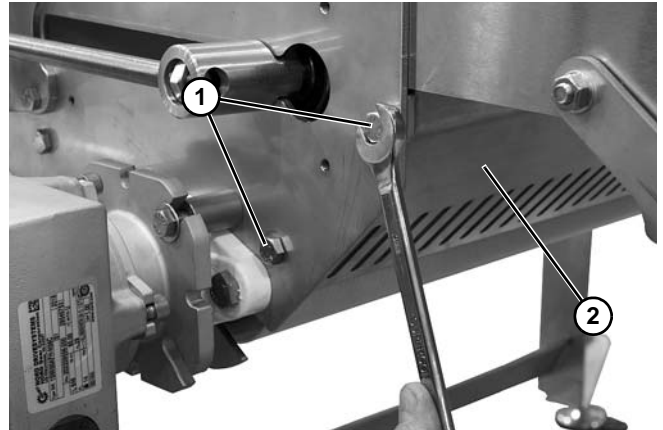

Figure 50
7. Remove two bolts (**Figure 50, item 1**) from each side of the center drive. Remove the stationary guard assembly (**Figure 50, item 2**).